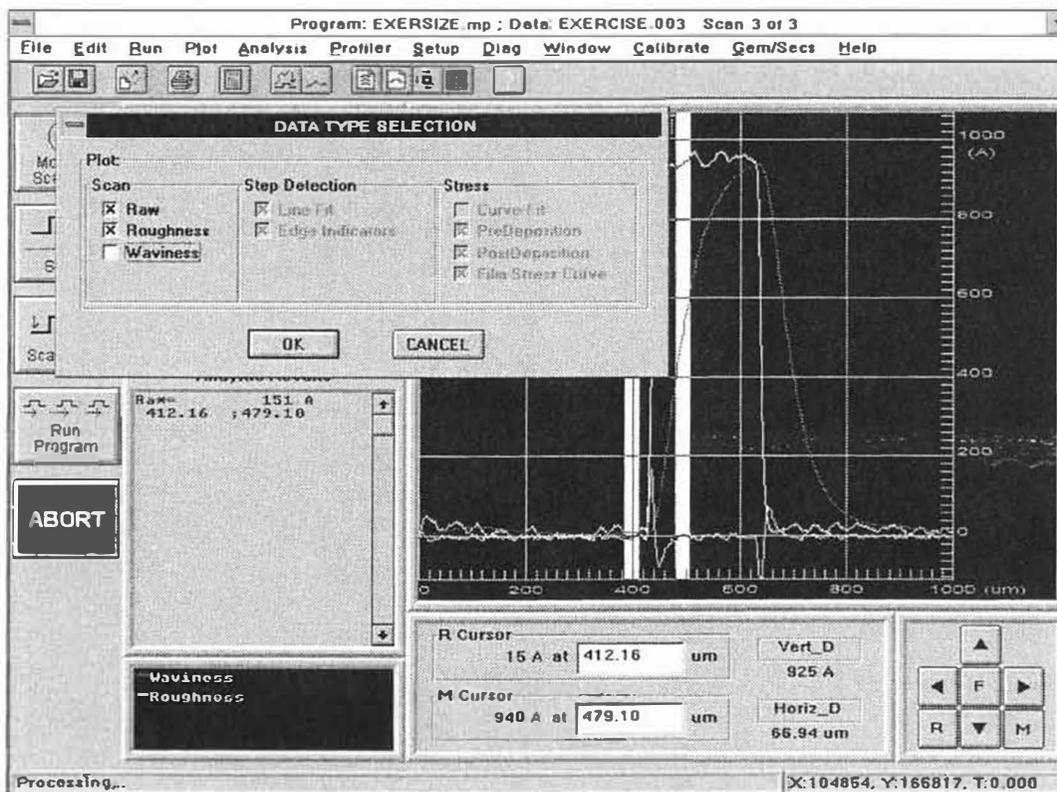

Figure 6-4. Data Type Window
1. Click-on "Analysis" from the Data Plot Screen menu bar, and click-on "Cutoff Filters" from the Analysis Menu. A dialog box will be displayed for setting the roughness and waviness filters (see Figure 6-4).